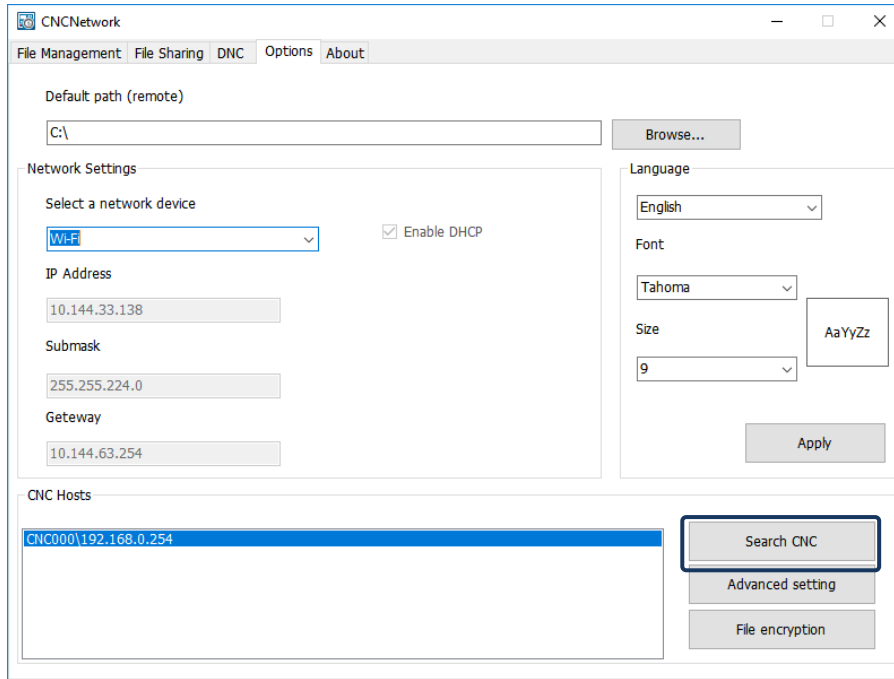

Figure 7.1.3
- (1) Execute CNCNetwork software and go to the **Options** screen.
- (2) Click **Search CNC** to connect to the CNC according to the setting in Figure 7.1.3.